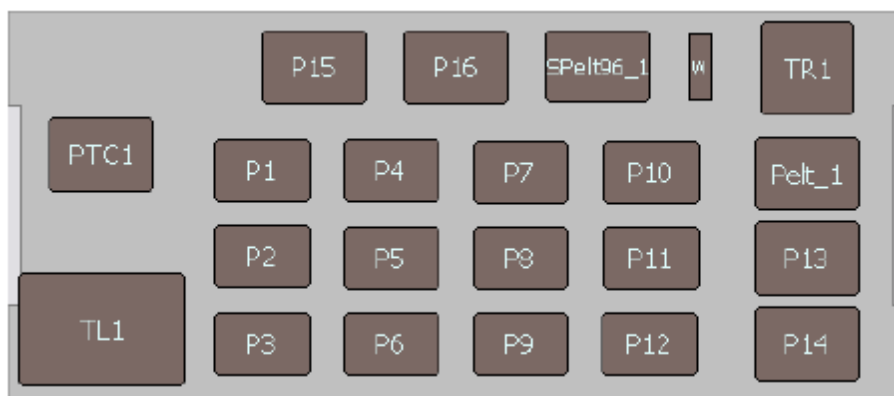

Figure 76 Empty deck positions.
- Figure 76—Location names of empty deck positions
^[1] See Figure 76 for empty deck positions.